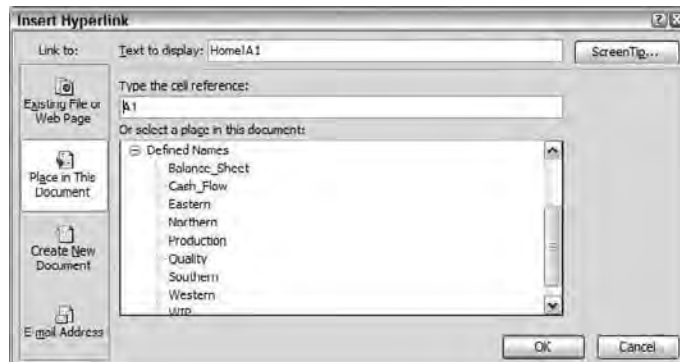

Figure 25.2: Use the Insert Hyperlink dialog box to add links to places within the same workbook or to other documents, or to open an e-mail window.
2. Choose Insert ⇨ Hyperlink or press Ctrl+K to display the Insert Hyperlink dialog box shown in Figure 25.2. In Excel 2007, on the Insert tab, in the Links group, select Hyperlink.